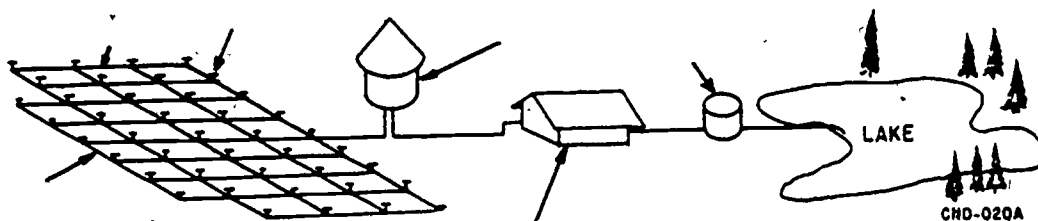

Figure 1-4. Exterior water distribution system (objective 400, exercise 1).
1. Without referring back to the text, identify the components of an exterior water distribution system (fig. 1-4) by writing each component's name at the correct arrow.